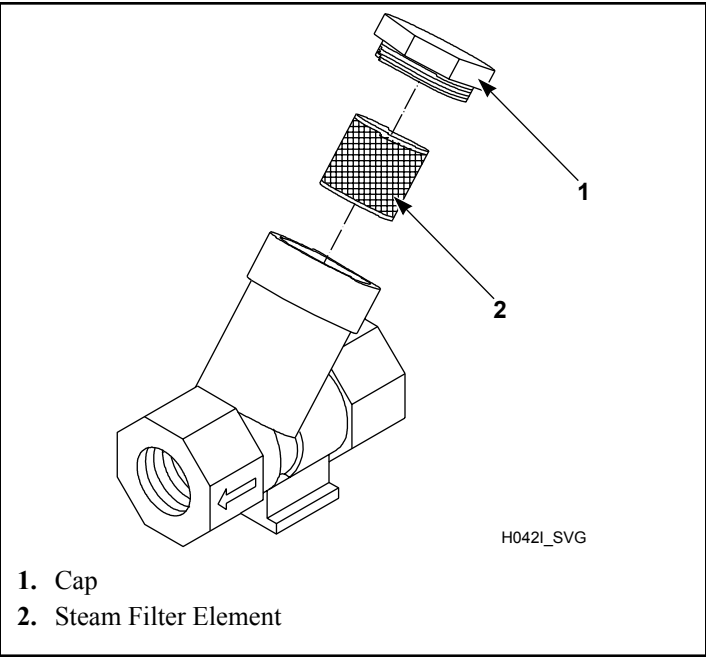

Figure 43
- 5. Clean customer-supplied steam filter, where applicable. Refer to *Figure 43* .